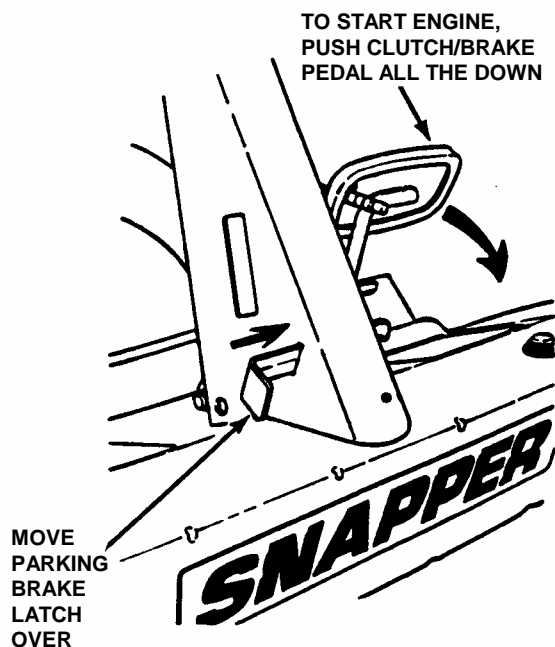

FIGURE 2.8
IMPORTANT: When the ignition key is turned to "RUN", and the recoil handle is pulled, the engine will turn over, but will not start unless the Clutch/Brake Pedal is pressed all the way down with Parking Brake engaged (See Figure 2.8) and the Blade Lever is in the "Off" position (See Figure 2.4). Start engine as follows:
3. Press Clutch/Brake Pedal all the way down, move Parking Brake Latch over and release the Clutch/Brake Pedal to engage the Parking Brake. See Figure 2.8.